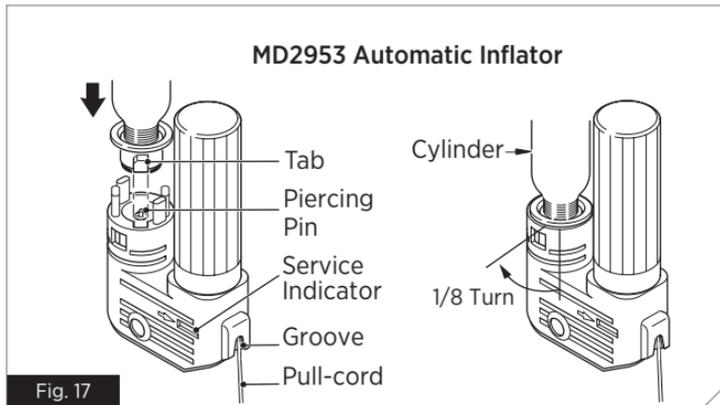

Fig. 17
10. **Raise, and hold, the lever into the inflator housing.** The pull-cord should be situated in the groove (Fig. 17). Install a new cylinder/bayonet assembly by engaging bayonet tabs in housing, pushing in then turning clockwise 1/8 turn to a full stop (Fig. 17).